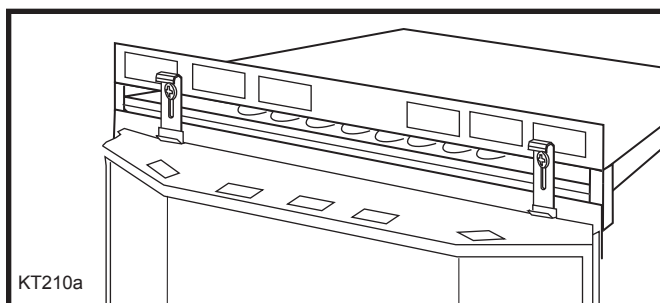

Fig. 35 Hang the window grille or the steel frame onto the lower tabs of the hanging brackets.
5. Install the bay window by hanging it onto the lower tabs of the hanging brackets. (Fig. 35)